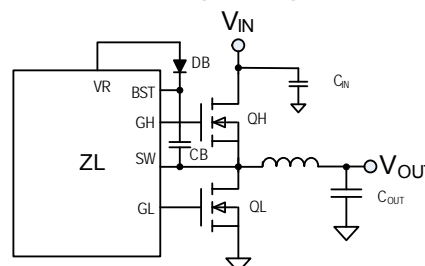

FIGURE 5. SYNCHRONOUS BUCK CONVERTER
Figure 5 illustrates the basic synchronous buck converter topology showing the primary power train components. This converter is also called a step-down converter, as the output voltage must always be lower than the input voltage. In its most simple configuration, the ZL6105 requires two external N-channel power MOSFETs, one for the top control MOSFET (QH) and one for the bottom synchronous MOSFET (QL). The amount of time that QH is on as a fraction of the total switching period is known as the duty cycle  $D$ , which is described by Equation 1:
The gate drive voltage for the high-side MOSFET driver is generated by a floating bootstrap capacitor, CB (see Figure 5). When the lower MOSFET (QL) is turned on, the SW node is pulled to ground and the capacitor is charged from the internal VR bias regulator through diode DB. When QL turns off and the upper MOSFET (QH) turns on, the SW node is pulled up to VDD and the voltage on the bootstrap capacitor is boosted approximately 5V above VDD to provide the necessary voltage to power the high-side driver. A Schottky diode should be used for DB to help maximize the high-side drive supply voltage.